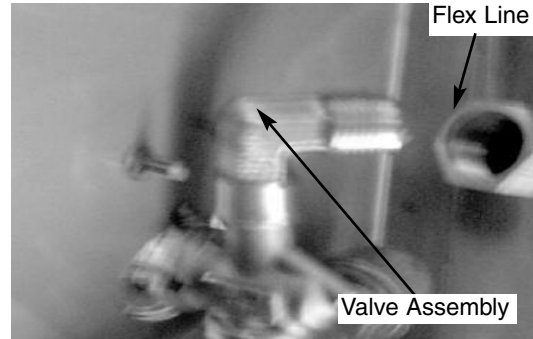

Fig 29
1. Loosen the gas supply hose attached to the side burner valve using an adjustable wrench. (See Fig. 29)
2. Once removed, the LP regulator and hose can be completely removed from the grill. (See Fig. 29)
8. Connect the new gas supply hose to the side burner valve. (See Fig. 29 again)